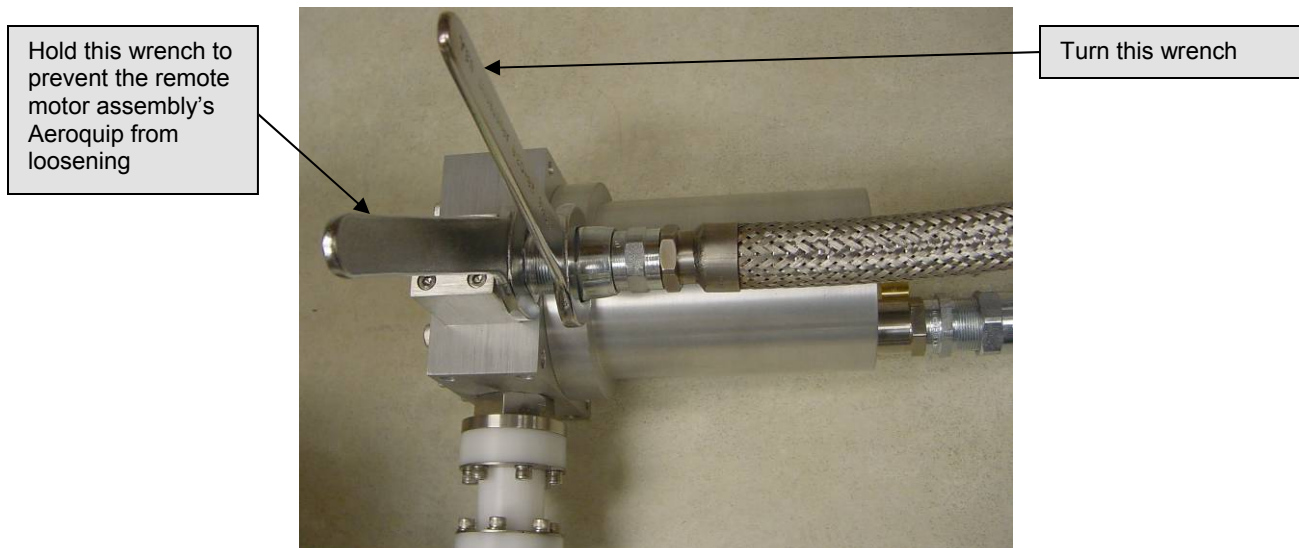

Figure 7-2: Disconnecting flex lines from a remote motor assembly
- 10) Disconnect the Aeroquips® on the high and low pressure fittings on the remote motor assembly by turning the flexible line's Aeroquip® counter-clockwise with one wrench while holding the remote motor assembly's Aeroquip® with the other wrench. See Figure 7-2.